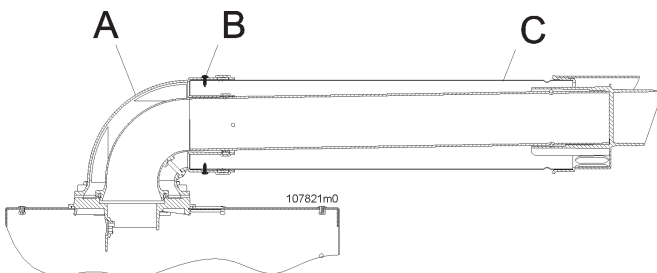

Figure 5-33 - Positioning the coaxial pipe
**ATTENTION !!!** Scrupulously follow the installation phases of the coaxial pipe as illustrated in figure 5-33. In particular: